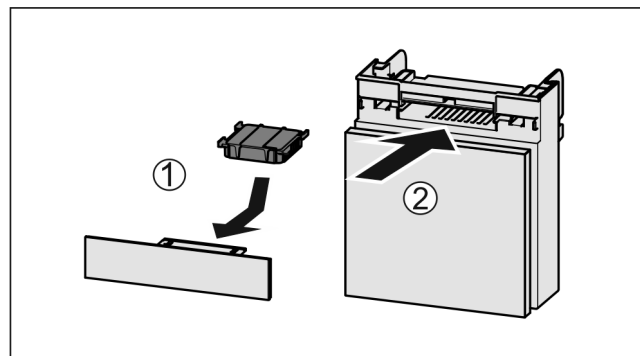

Fig. 200
- ▶ Insert the carbon filter as shown in the diagram Fig. 200 (1).
- ▶ Push the compartment in Fig. 200 (2).